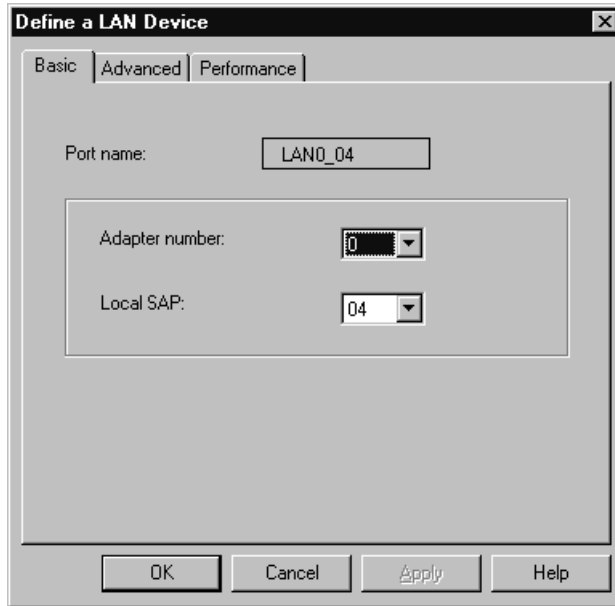

Figure 70. Define a LAN device window: basic page
- 3 On the Basic page, use the values that are shown in Figure 70 for the following fields: